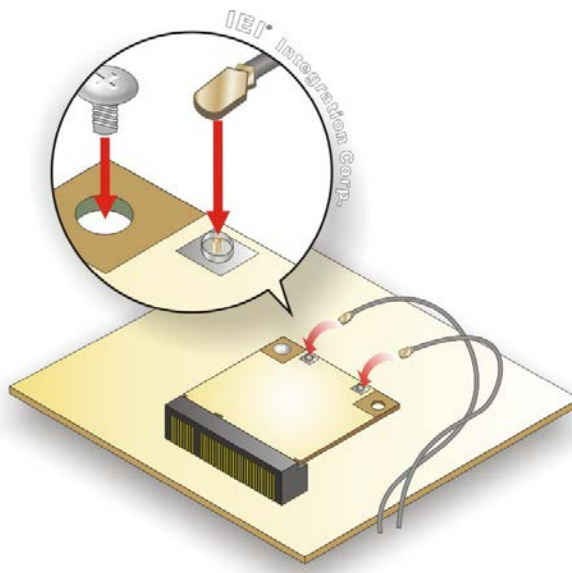

Figure 3-17: Securing WLAN Module and Connecting RF Cables
Step 6: Secure the WLAN module with the retention screw previously removed (**Figure 3-17**).
Step 7: Connect the two RF cables to the antenna connectors on the WLAN module (**Figure 3-17**).